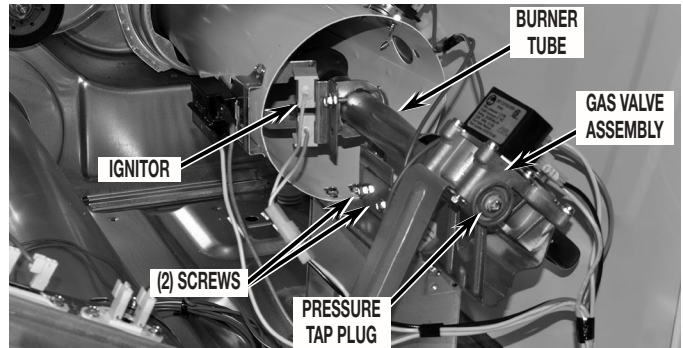

FIGURE 1A
- Remove the two (2) screws securing the burner tube to the burner base. See *Figures 1A and 1B*.
- Slide the burner tube back in place and, using the screws removed in Section 3, step 8, reattach burner tube to the burner assembly. Securely tighten the two (2) mounting screws. See *Figure 1A or 1B*.